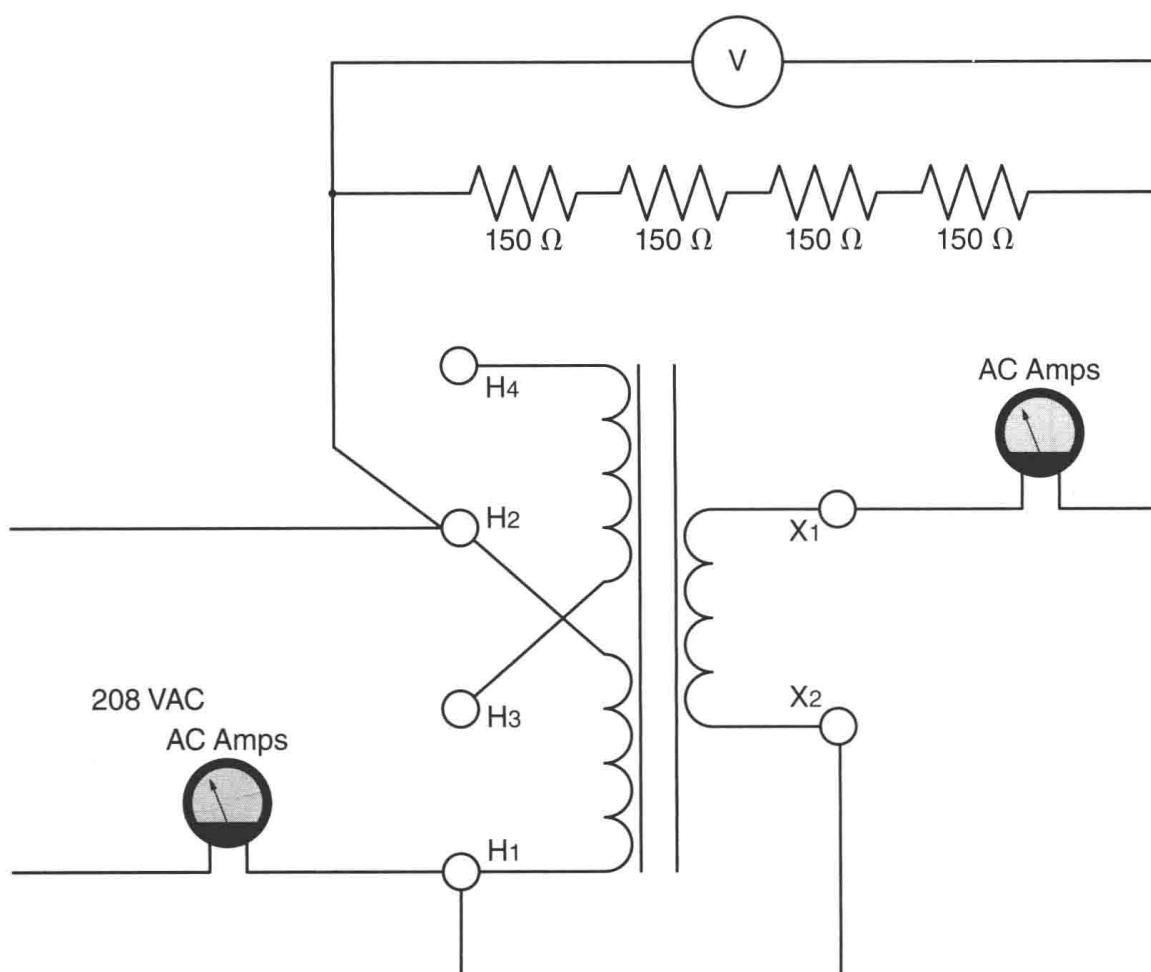

Figure 21-18 Connecting load to the boost connection.
36. Reconnect the transformer for the boost connection by connecting terminal X_2 to H_1 . If two ammeters are available, connect one AC ammeter in series with one of the power supply leads and the second AC ammeter in series with the secondary. Connect four 150-ohm resistors in series with terminals X_1 and H_2 as shown in Figure 21-18. Connect an AC voltmeter across terminals X_2 and H_1 .